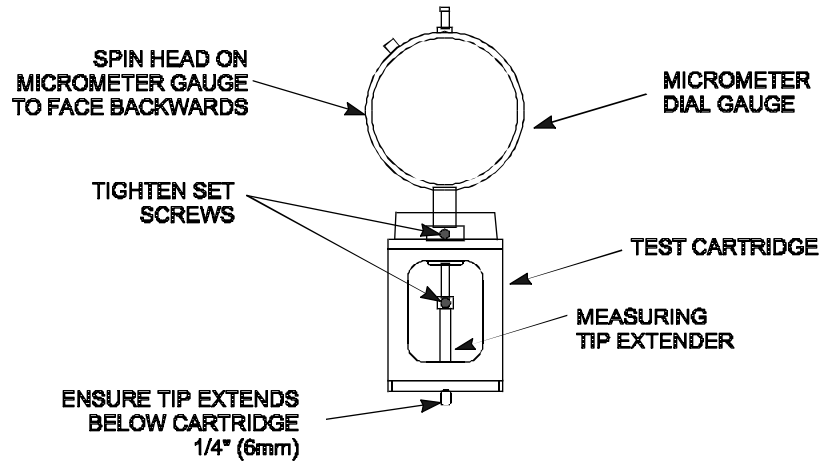

Figure 3-15. Setting Up Tools from Height Gauge Kit.
2. Obtain the 3 tools (Micrometer Dial Gauge, Test Cartridge, and Measuring Tip Extender) from the Height Gauge Kit. Assemble the tools as shown in Figure 3-15.